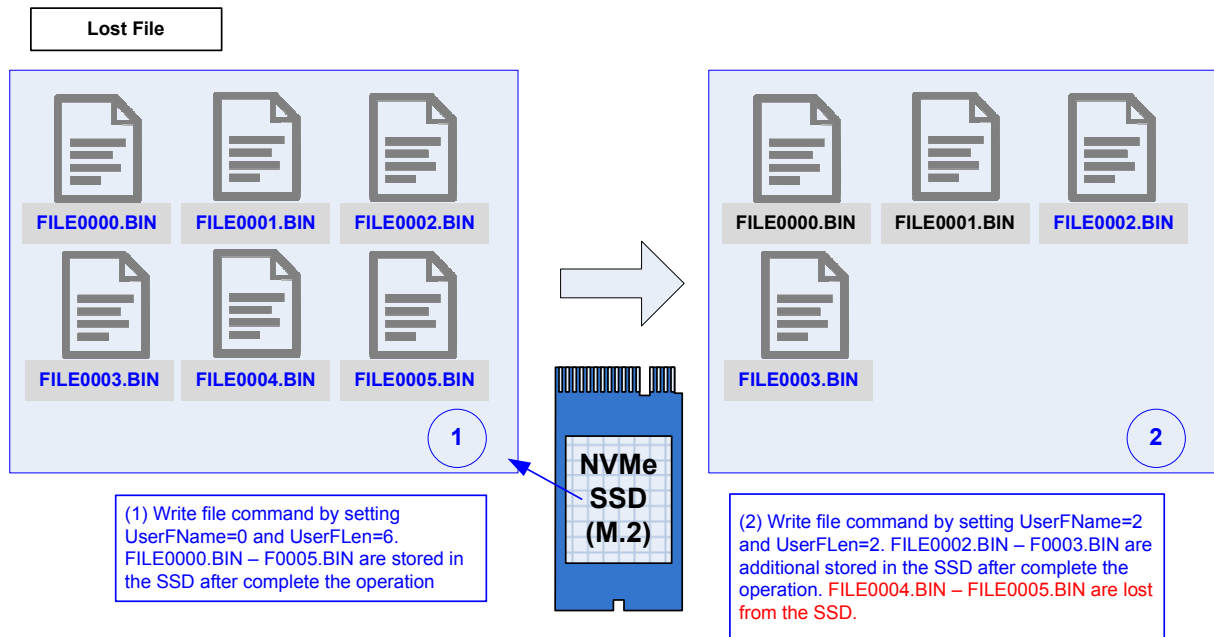

Figure 9: Write file command but UserFName is less than normal value
- b) When UserFName is less than the next value of the latest file, the file after the 1st new file is lost, as shown in Figure 9.